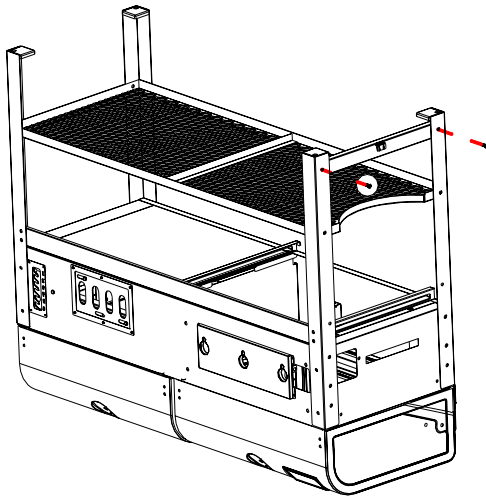

Fig. 7
Refer to Fig. 7 and attach the Support Brace to the **INSIDE** of the Left Side Front and Rear Legs using (1) M6x15 bolt at each end of the Brace.